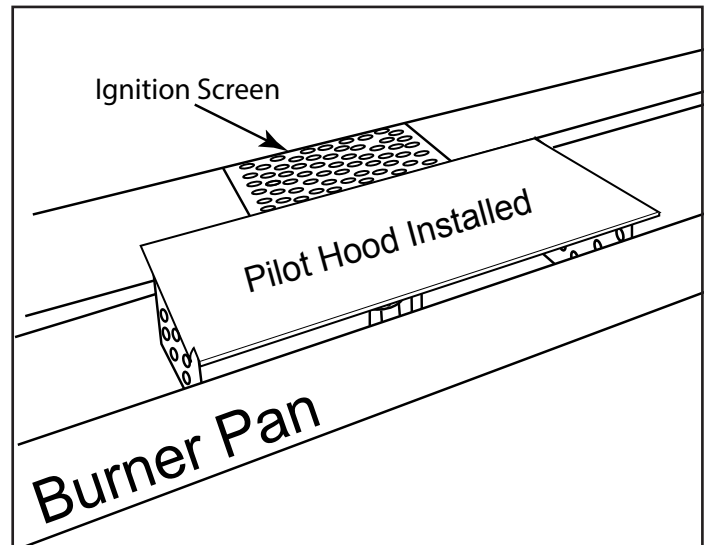
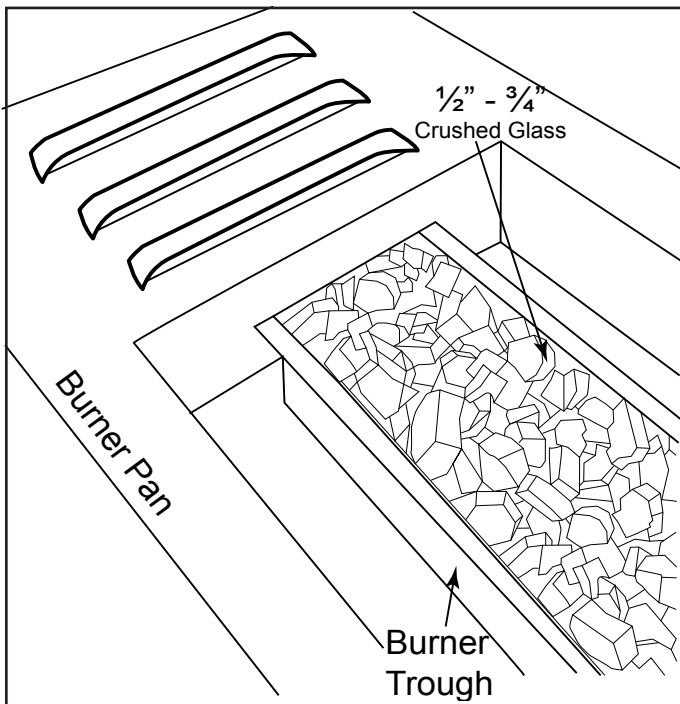
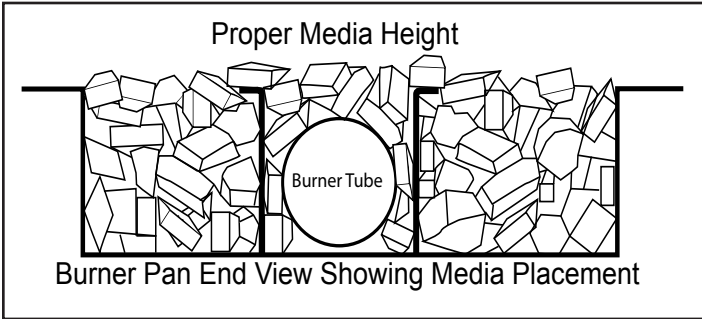

Fig. 32 Pilot hood installed, showing ventilation at front edge of burner pan.
Fig. 34 Installing media into the fireplace.
Fig. 35 End view of burner with media.
Remove the plastic film from the pilot hood and place it on top of the pilot box as shown in Fig. 32.
Step 24: Open the media box and install the glass media as shown in Figs. 34 - 36. Place media fireglass into the trough area first as shown in Fig. 35. Use the remaining media to fill the burner pan equally on both sides. Install only one layer over top of the ignition screen (Fig. 32), just enough to camouflage it.
Note: Media amounts listed in Table 8 are guides and can vary depending on media used. Ensure not to cover more than ½ -inch above the actual burner tube and keep all media within the burner pan area (See Fig. 35).